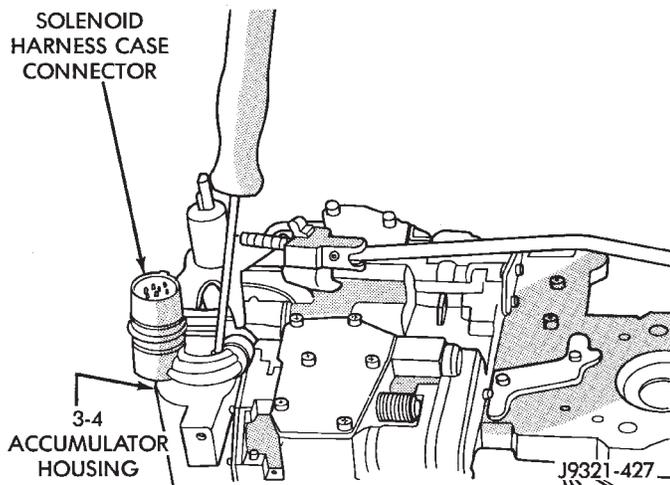
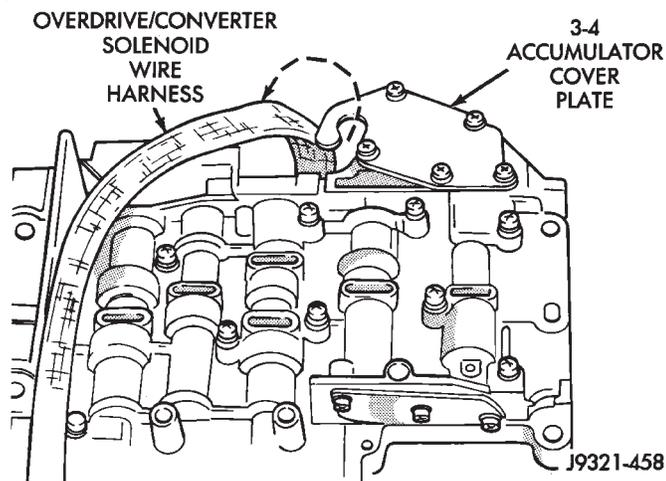

Fig. 112 Solenoid Harness Case Connector Shoulder Bolt
Fig. 113 Solenoid Harness Routing
(17) Lubricate solenoid case connector O-rings and shaft of manual lever with light coat of petroleum jelly.
(18) Obtain new fluid filter for valve body but do not install filter at this time.
(19) If line pressure and/or throttle pressure adjustment screw settings were not disturbed, continue with overhaul or reassembly. However, if adjustment screw settings **were** moved or changed, readjust as described in Valve Body Control Pressure Adjustment procedure.
(20) Attach solenoid case connector to 3-4 accumulator with shoulder-type screw. Connector has small locating tang that fits in dimple at top of accumulator housing (Fig. 112). Seat tang in dimple before tightening connector screw.
(21) Install solenoid assembly and gasket. Tighten solenoid attaching screws to 8 N·m (72 in. lbs.) torque.
(22) Verify that solenoid wire harness is properly routed (Fig. 113). **Solenoid harness must be clear of manual lever and park rod and not be pinched between accumulator housing and cover.**